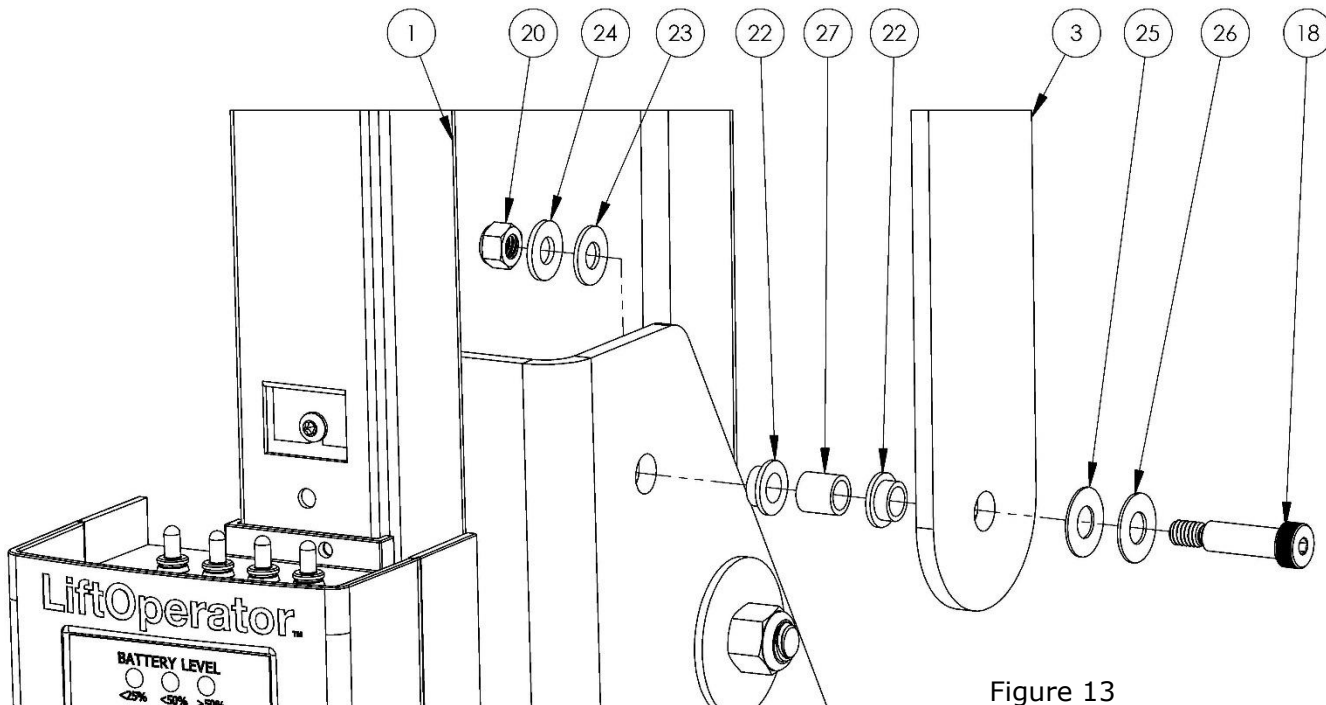

Figure 13
18. Next assemble the seat leveling to the multiLift2 base as shown in Figure 13.